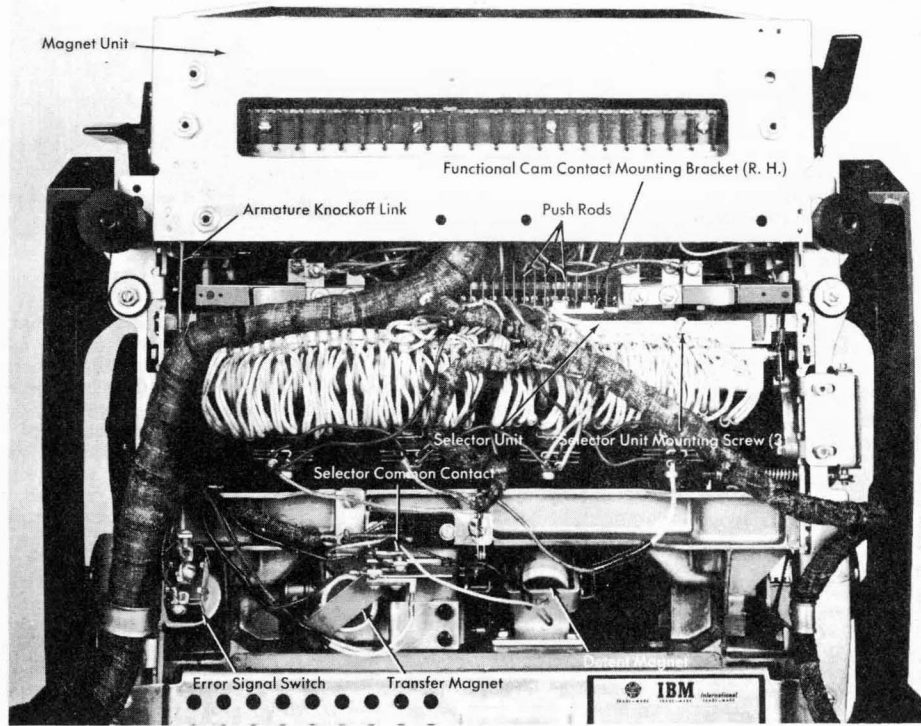

Figure 62. Bottom View of 868 Equipped with Selector Unit
1. Loosen the three mounting screws and move the unit to the rear of the machine (Figure 62).